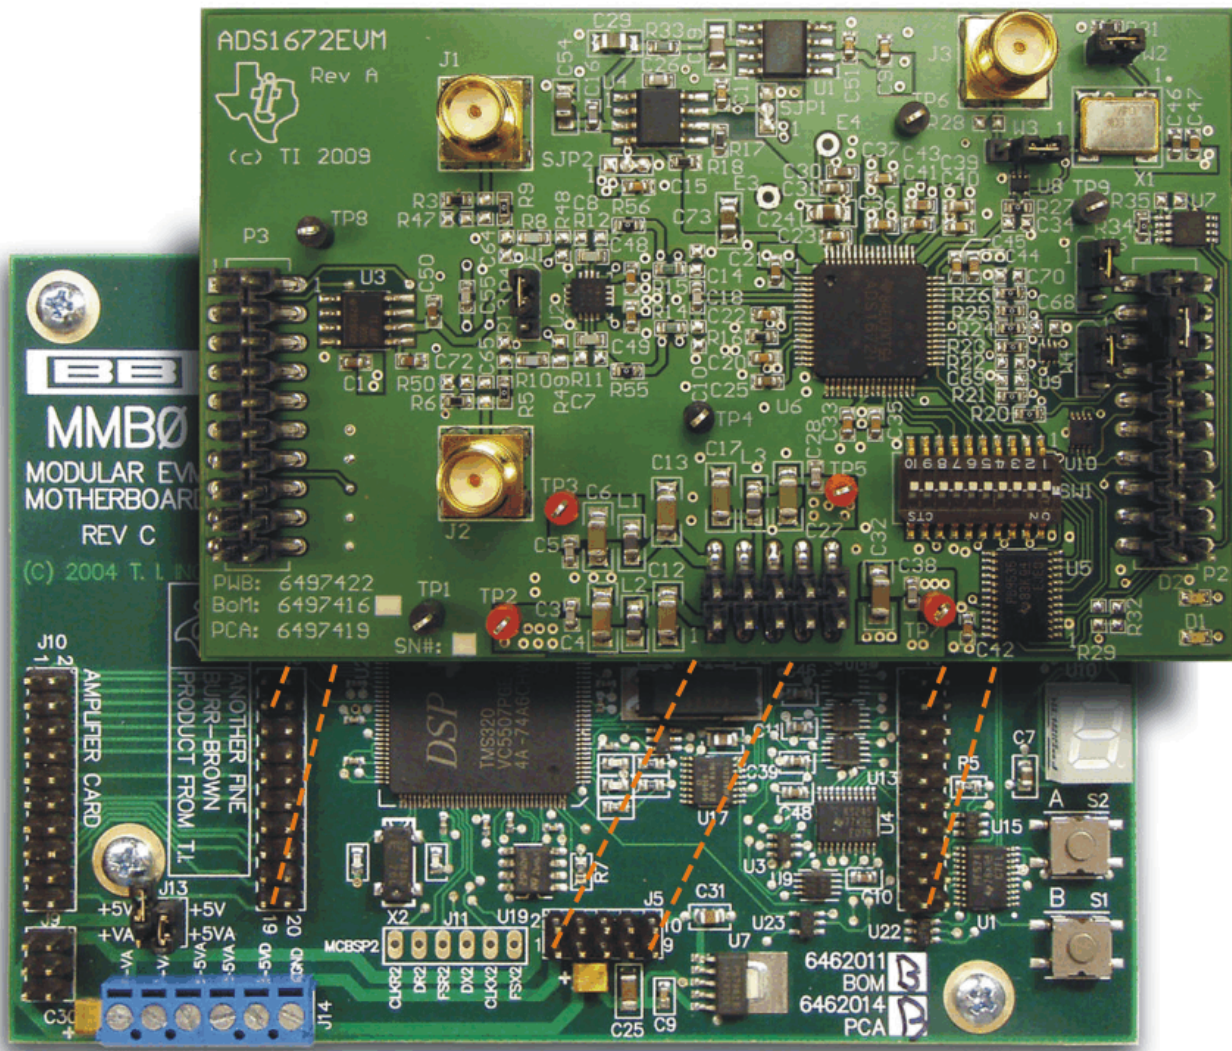

Figure 10. Connecting ADS1672EVM to MMB0
Step 3. Plug the ADS1672EVM into the MMB0 as Figure 10 illustrates.